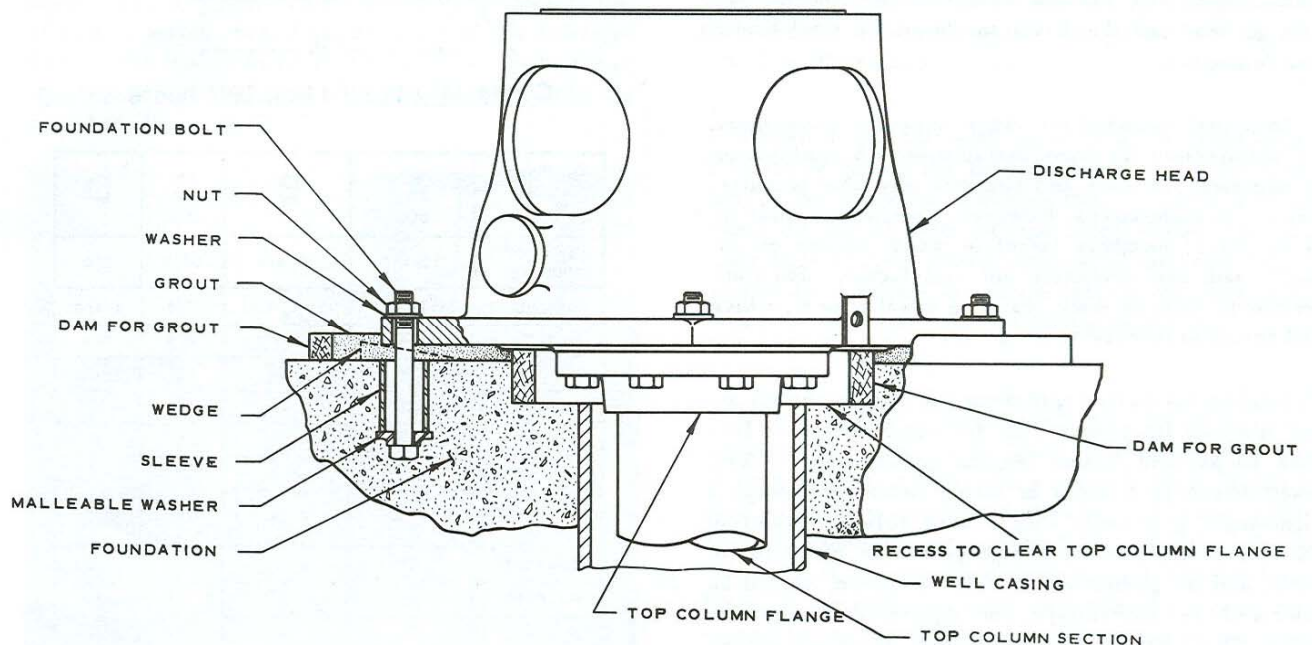

Fig. 4-1. Foundation And Grouting Details
A. It is strongly recommended that a substantial concrete foundation be built around the well before the pump is installed. The original pump shaft alignment will last only as long as the foundation supports the pump in a stable position. If the pump discharge head has a protrusion below the base which is wider than the well casing must be far enough below the foundation surface to clear such a protrusion. In this case a dam must be provided around the well casing to retain the grout which will later be poured between the discharge head and the foundation. (See Fig. 4-1). If the well casing is wider than any protrusion of the discharge head below the base, the casing itself can be used as a dam for the grout.
D. Foundation bolts (hold-down, or anchor, bolts) are not required for pumps with discharge pressures less than 10 psi and column lengths greater than 50 feet, when driven by a motor or steam turbine or through a right-angle gear unit. Pumps with column lengths 50 feet or less, or discharge pressures of 10 psi or more, and all pumps which are belt-driven, should be anchored by sleeve-type, or equivalent, foundation bolts. (See Fig. 4-1.) Sleeve-type bolts are recommended because they allow some flexibility in the final positioning of the discharge head. They are also